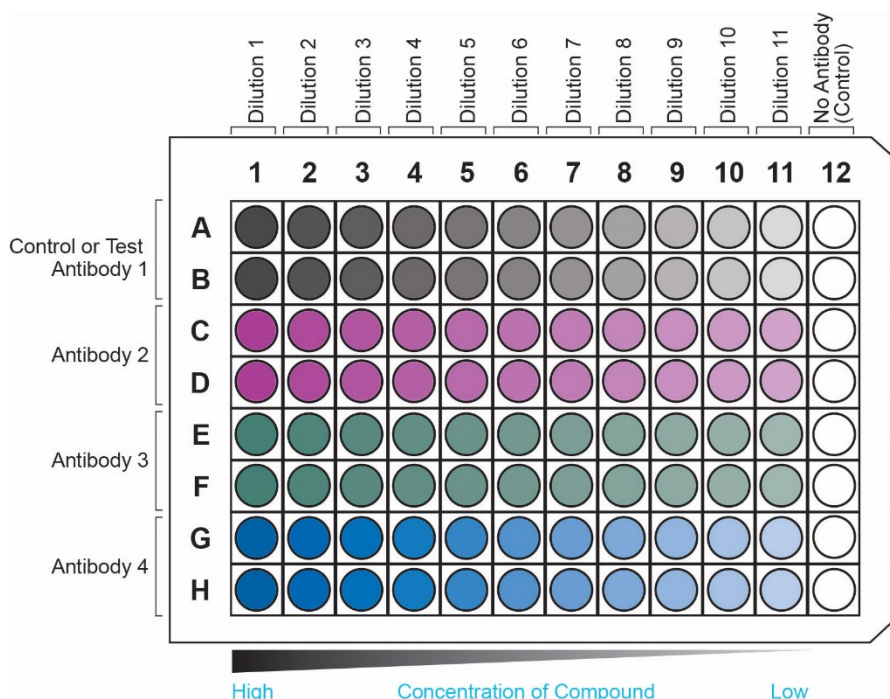

Figure 4. Representative Assay Plate Map: An example of 11-point serial dilution curves in duplicate with four different antibodies.
- 3.1. Transfer 10 μL of each 10X antibody serial dilution prepared in Step 2 into the appropriate wells of the 96-well assay plate. Figure 4. Representative Assay Plate Map shows the recommended format of sample addition to the plate in duplicates.
- 3.1. Add the antibody serial dilutions to the assay plate, as described in 3. Addition: Antibody in the Detailed Assay Protocol: Signaling Assay for Inhibitory Checkpoint Receptors. Refer to Figure 4. Representative Assay Plate Map for the recommended format of antibody addition to the assay plate.